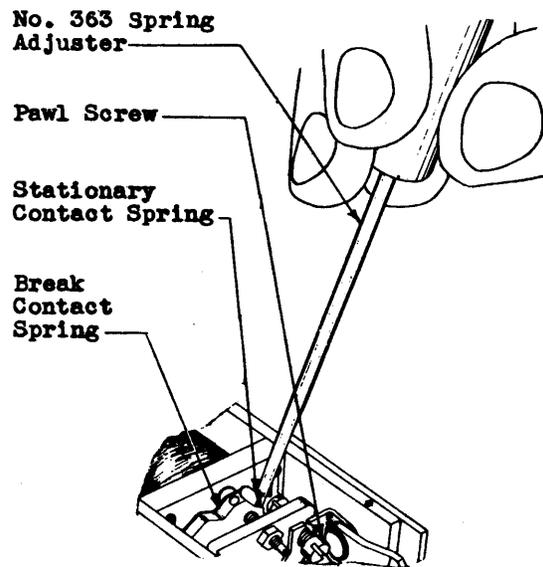

Fig. 16 – Method of Adjusting for Contact Separation on Break Contact Registers
- (2) If the units wheel is advanced too far, if the operating pawl binds on the overthrow stop, or if the operating pawl does not drop into its normal position in front of a tooth on a register equipped with a pawl screw (see Fig. 16), turn the pawl screw out (counterclockwise) with the 3-inch cabinet screwdriver, until the condition is corrected. Exercise care not to back out the pawl screw so that it is not held securely by the threads in the armature. If sufficient clearance cannot be obtained in this manner, proceed as outlined in (3). Check the adjustment of the register as covered in (4) and (5).
(5) If the register is equipped with break contacts and the contact separation is too small or too large with the armature electrically operated, adjust the stationary spring slightly towards or away from the number wheels using the No. 363 spring adjuster as shown in Fig. 16. After making this adjustment, allow the armature to release and make sure that the contacts close reliably. If they do not, adjust the break contact spring towards the number wheels using the No. 363 spring adjuster and applying it close to the point where the spring leaves the spoolhead in the same position as shown in Fig. 16 for the stationary spring.